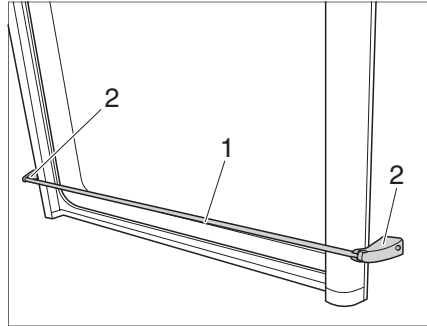

Fig. 42 Fall protection bar
- Grip the fall protection bar (Fig. 42,1) near the two brackets (Fig. 42,2) and pull forwards.
- Clip the fall protection bar (Fig. 42,1) into the two brackets (Fig. 42,2).